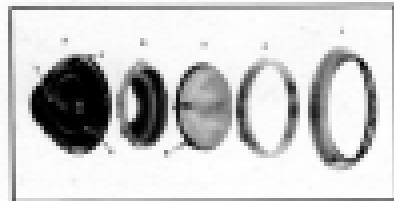

Fig. 619. "Sealed Beam" Lamp Construction Detail
The "Sealed Beam" reflector unit (A) (Fig. 619) is held to a sub-body (B) by a retaining ring (C) and three screws which must be removed for removal of the unit. The sub-body forms a ball and socket joint with a lamp housing (D) and is held to the housing by a coil spring (E), plus the vertical adjustment screw (F), and the horizontal adjustment screw (G). With this type of mounting, the horizontal light beam adjustment can be made without disturbing the vertical light beam setting and vice versa. The reflector unit is provided with three locating lugs (H) which fit into corresponding slots in the sub-body. These lugs are so located that the reflector unit can be mounted in only one position.